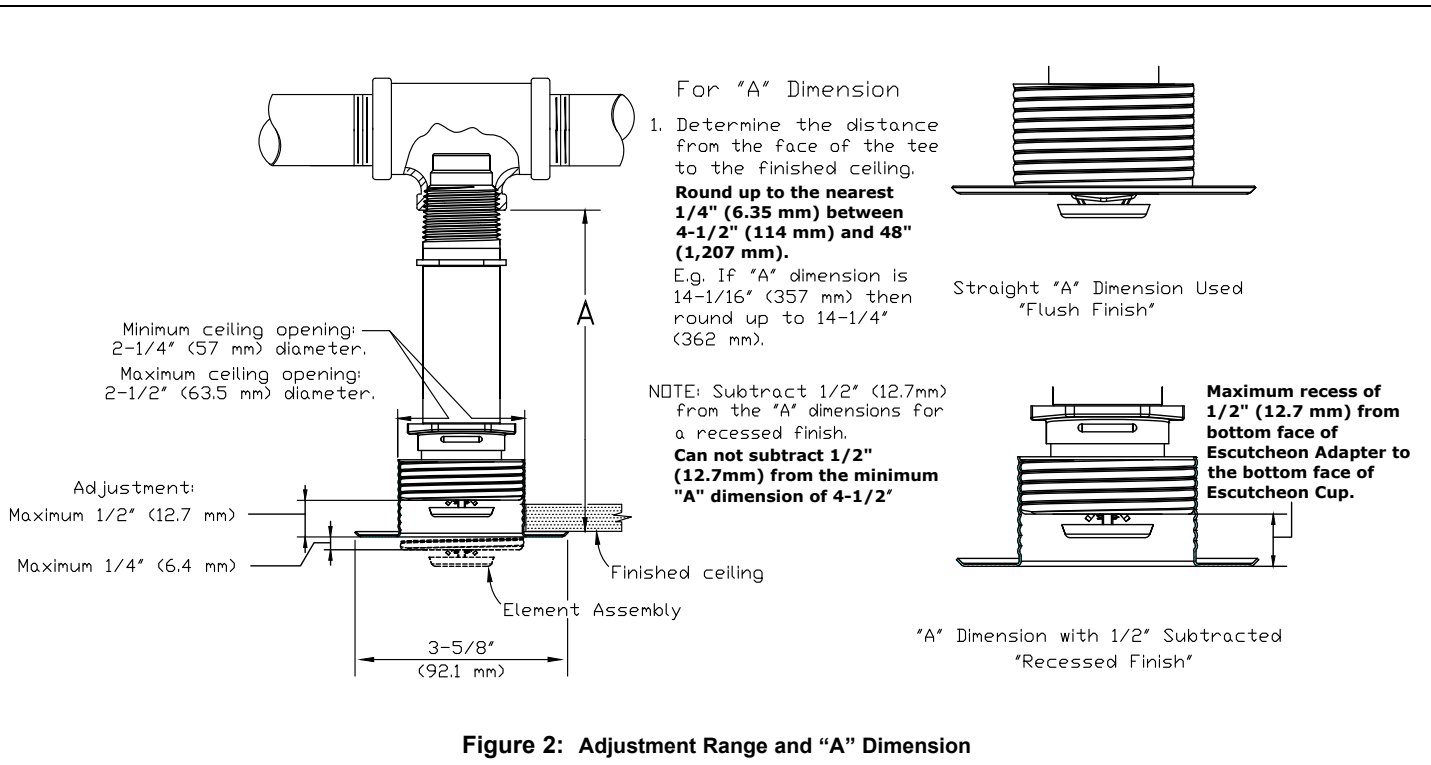

Figure 2: Adjustment Range and "A" Dimension
**The minimum required barrel length is not the same as the "A" dimension. Refer to Figure 2 for the "A" dimension. NOTE: Exposed minimum barrel lengths are inclusive up to 30 mph wind velocities.